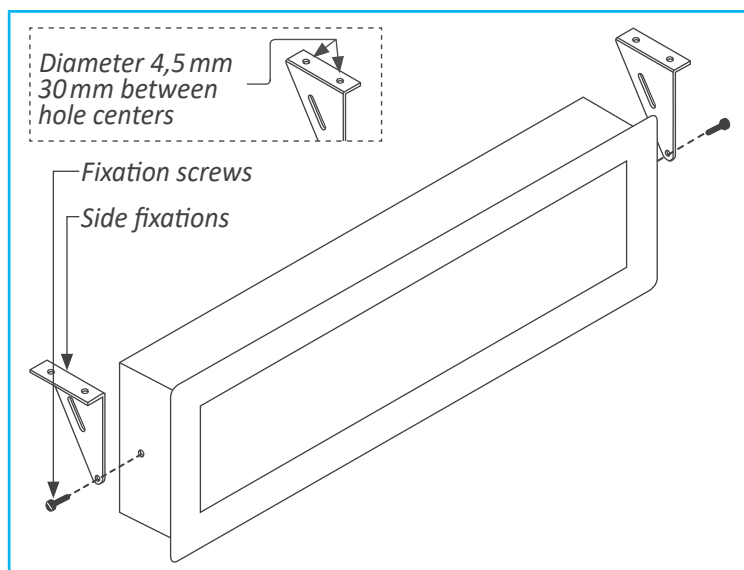

Figure 16 - Hanging mount
- Hanging mount. Mount the side fixations as shown (see Figure 16). Each fixation has 2 holes with 4,5 mm diameter and a separation between hole centers of 30 mm. Instrument can be hanged using cable, threaded rod, ....